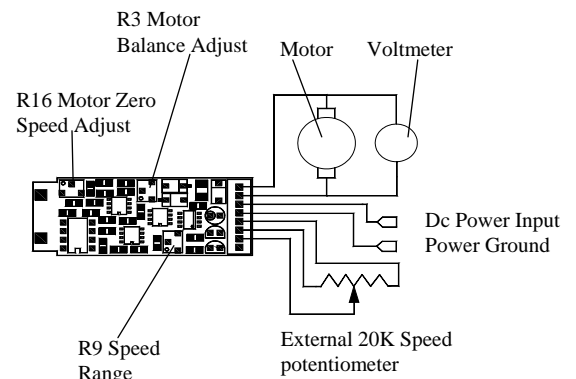

Figure 3
- Turn R9, speed adjustment CCW for lowest gain. Apply full scale voltage to J1 pin-2 by either turning the external 20K potentiometer as shown in figure 3 fully CW or by using an external control power source such as a D/A converter. Turn R9 CW until desired maximum motor voltage his reached. For example if a motor with a nominal voltage rating of 12 Volts is being used, adjust R9 so that 12 volts is measured across J1 connector pins 7 and 8.